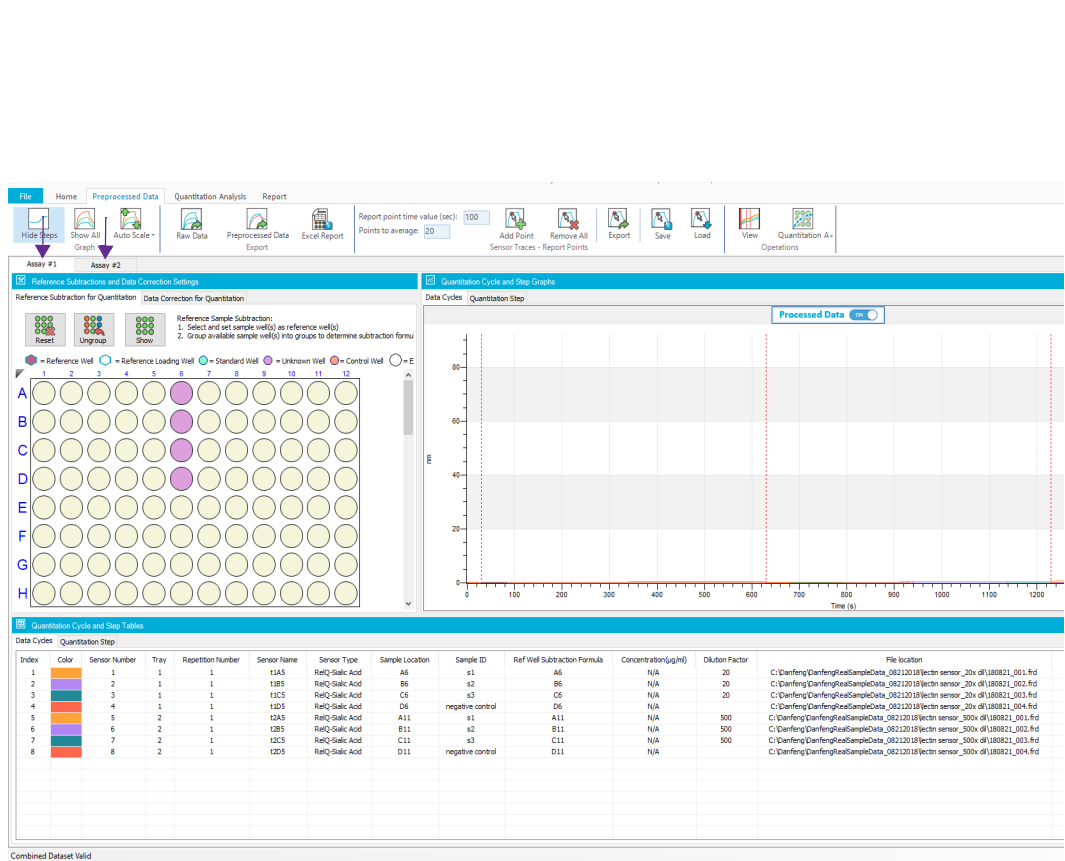

Figure 3-2: Viewing Sialic Acid and Titer Data
1. Click on the **Preprocessed Data** tab, and view Sialic Acid or Titer data by selecting **Assay #1** or **Assay #2** (Figure 3-2).